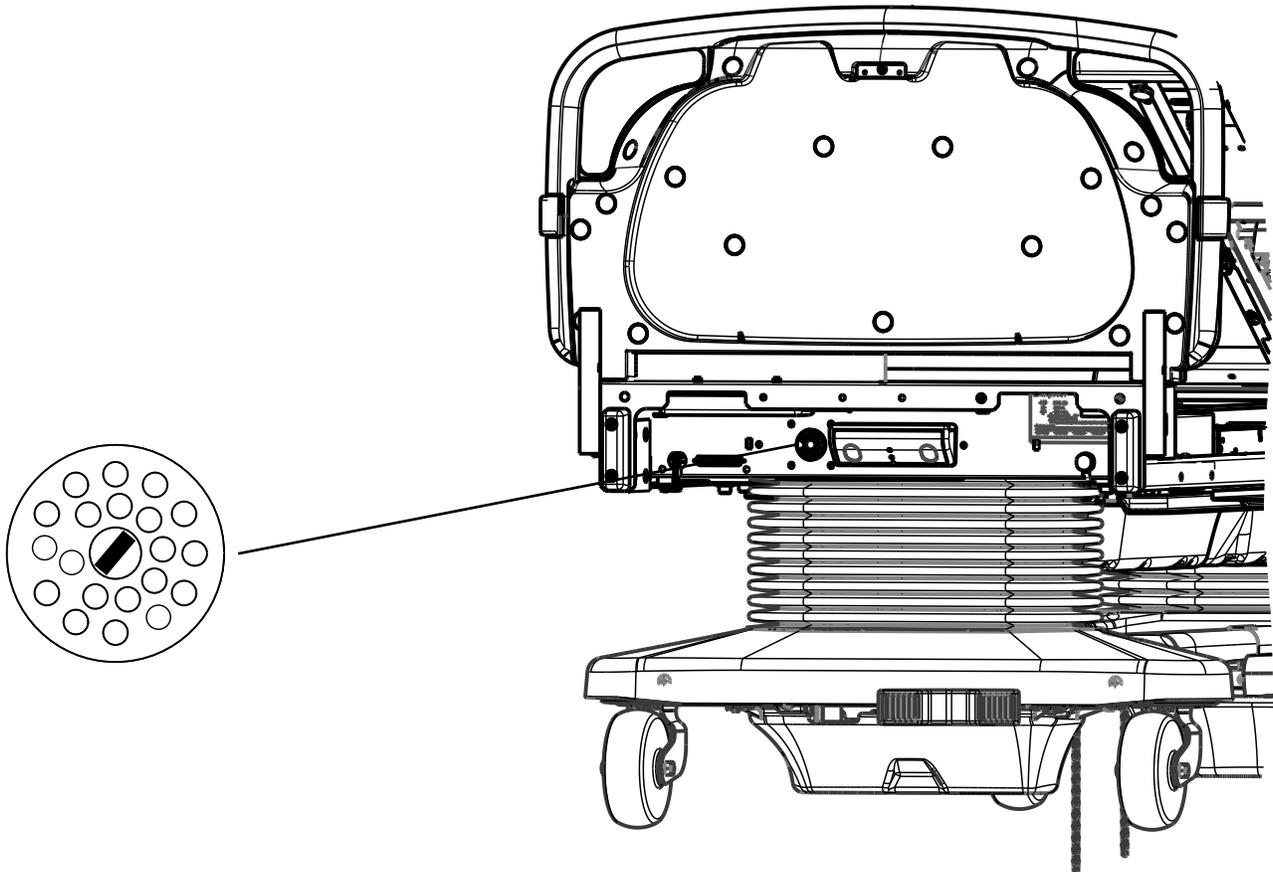

Figure 17 – Nurse call switch
**Note** - A 9V battery powers the nurse call signal when the product is unplugged. If the product is unplugged from a wall outlet while the nurse call pendant port switch is set to the on position, the 9V battery will begin to drain (Figure 17).